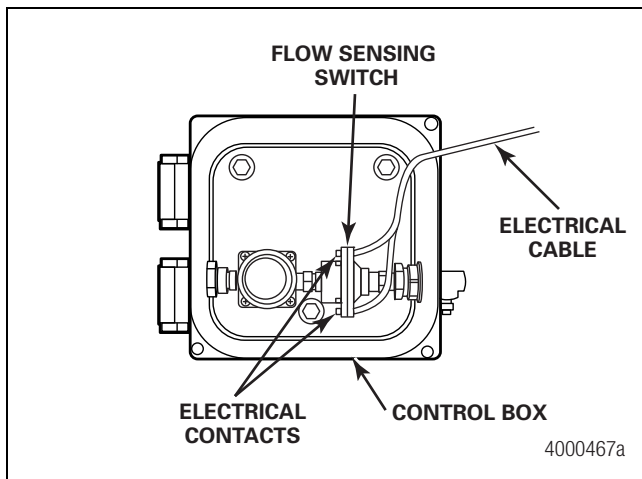

Figure 2.66
5. Route the remaining wire harness through the liquid tight seal on the control box and connect the harness to the electrical contacts of the flow sensing switch. The black or white wire can be connected to either terminal on the flow switch and are interchangeable. Figure 2.66.